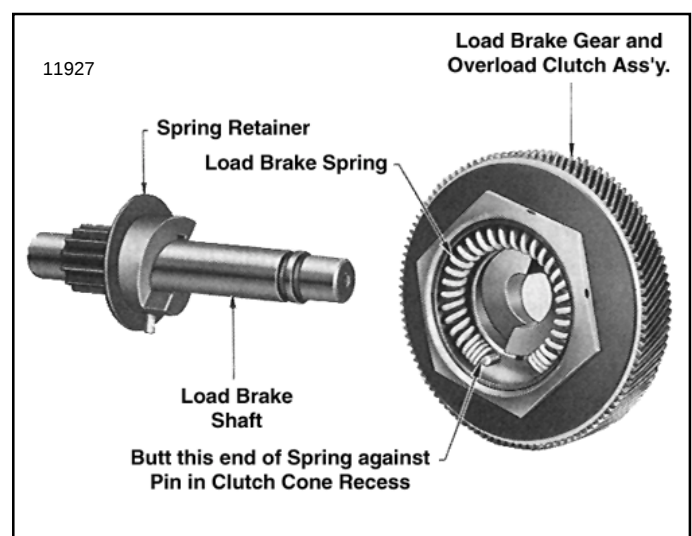

Figure 7-24. Load Brake Gear and Overload Clutch Assembly Removed from Load Brake Shaft Showing Brake Spring Installed in Clutch Cone
(3) Remove load brake gear and overload clutch assembly from output pinion shaft. Pull the spring from its recess in clutch cone (fig. 7-24) but do not further disassemble gear and clutch assembly. See **"NOTE"** below.
NOTE: Disassembly of the load brake gear and overload clutch assembly (fig. 7-24) is not recommended. Clutch pressure is preset by the factory at assembly to provide the correct torque to allow the clutch to refuse loads within a specified range (150% of rated load to 200% rated load). It is suggested whenever there is a need to repair or readjust the gear and clutch assembly that it be sent to an authorized **Budgit** Hoist Repair Station where adequate tools, fixtures and appropriate test equipment is available.
(1) Before assembly, all parts should be cleaned and inspected to determine their serviceability. Replace parts that are worn or damaged.
(2) Reassemble load brake parts following a reverse procedure of the disassembly steps listed above, observing the assembly steps (3) through (6) below.
(3) Before installing spring in its recess in center of clutch cone (fig. 7-24) apply a good grade of ball bearing grease to inside of recess. Spring must be positioned exactly as illustrated, abutted against pin.